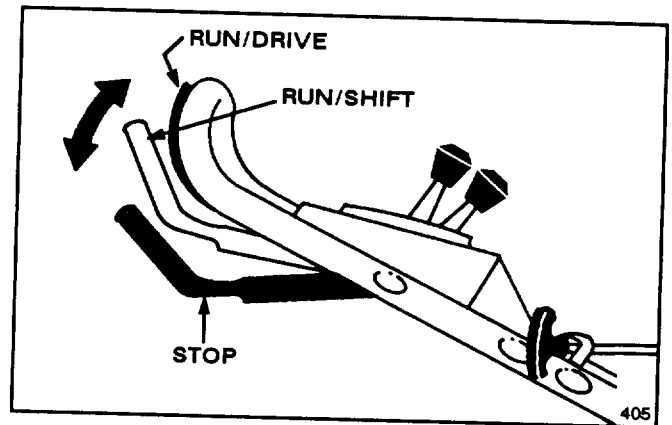

Figure 7
5. **WHEEL TRACTION OPERATION** (Fig. 7)—Lift control bar to RUN/SHIFT position. Move ground speed control to desired setting and squeeze control bar against handle to drive. Ground speed varies depending on space between control bar and handle.